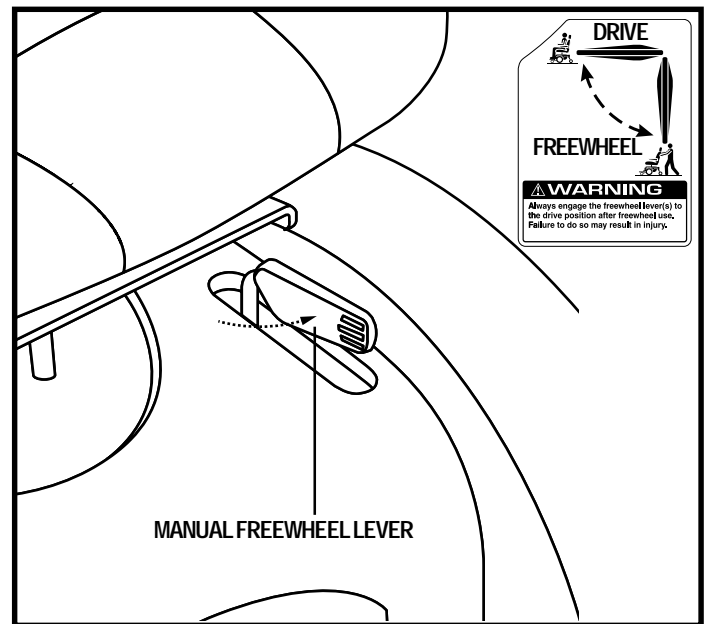

Figure 8. Freewheel Mode (Drive Disengaged)
3. Turn the levers outward to disengage the drive motors. See figure 8.